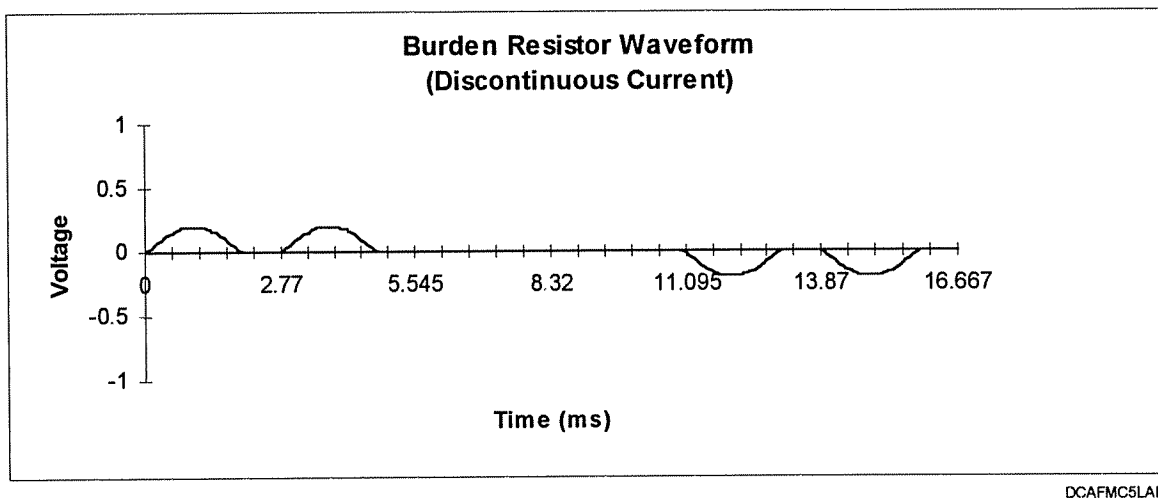

FIGURE 3-5. BURDEN RESISTOR WAVEFORM
- 13) Turn the drive on while observing the scope. Apply a run command, such that the "RUNNING" LED is illuminated. Slowly increase the current command through the calibration parameter documented in step 7-a, while observing the scope. Stop increasing the current command when voltage pulses are observed on the scope. The observed waveform should resemble that of Figure 3-5.
- 22) Correct the CT polarities by switching the wire pair for the CT(s) whose feedback pulses are inverted from those shown in Figure 3-5.